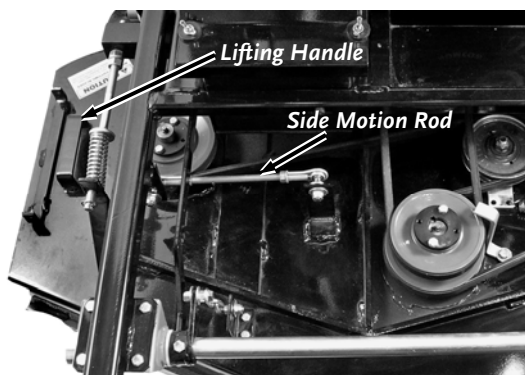

Figure 24
7. Using a 9/16" Wrench, remove one end of the Side Motion Rod (**Figure 24**).